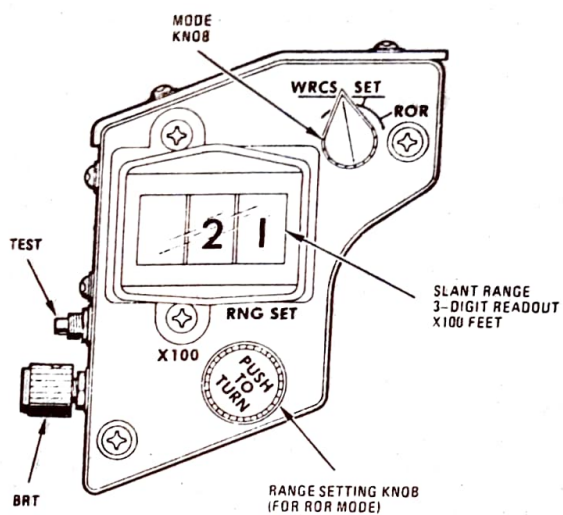

Figure 14, Slant Range Indicator (SRI)
(8) REJOVRD Button: This momentary push-button switch is used only in the track mode and when the laser is firing. If the laser range is invalid (the dot part of the laser status symbol flashes at 2 Hz as viewed on display), the laser range is rejected by the pod, and computed range is used instead. Laser range can be accepted by pressing the REJOVRD switch. In BIT 3, the laser transmitter is fired by pressing this switch.
(9) BIT Switch: The normal operating position of this switch is BIT 1 (i.e., one (1) showing in the window). This is a push button-operated, five-position (BIT 0 to BIT 4) switch. Each time the pushbutton is pressed, the switch advances one step. When BIT position 4 is reached, the next time the pushbutton is pressed, the switch rotates to position 0. The BITS are described in Section III C.
(10) GO/MALF Indicator: This indicator is used in conjunction with the BIT switch. In BIT 0, both sections illuminate. When in BIT 1, GO is inhibited at all times. MALF illuminates in BIT positions 1 through 4 when a circuit failure occurs in the selected position.
(11) RET BRT Control: This control adjusts the contrast of the TV reticle from black (fully CCW) to white (fully CW).
(12) LT BRT Control: This control adjusts edge lighting of the pod control panel. Clockwise rotation increases light intensity. The LT BRT knob is not functional in BIT 0.
e. Slant Range Indicator (SRI): See Figure 14. The SRI is located on the left side of the FCP above the glare shield and is functional when the pod is turned on. The indicator provides a three-digit readout of the slant range (X100 feet) to designated target.
(1) Test Control. When pressed, this control energizes all seven segments of each digit of the three-digit X100 display. The display then indicates 888. If any part of an 8 is missing, the readout unit is defective and must be replaced.
(2) BRT Control. This control adjusts the intensity of the readout.
(3) RNG SET Control. This is a push-to-turn control that is used to preset and store in the range indicator the desired release range for automatic weapon delivery in the release on range (ROR) mode.
(4) Mode Switch. This three-position switch is used for automatic weapons delivery as described below.